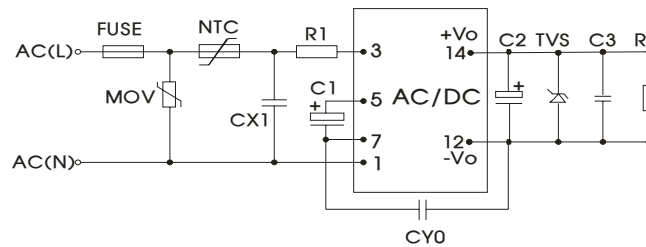
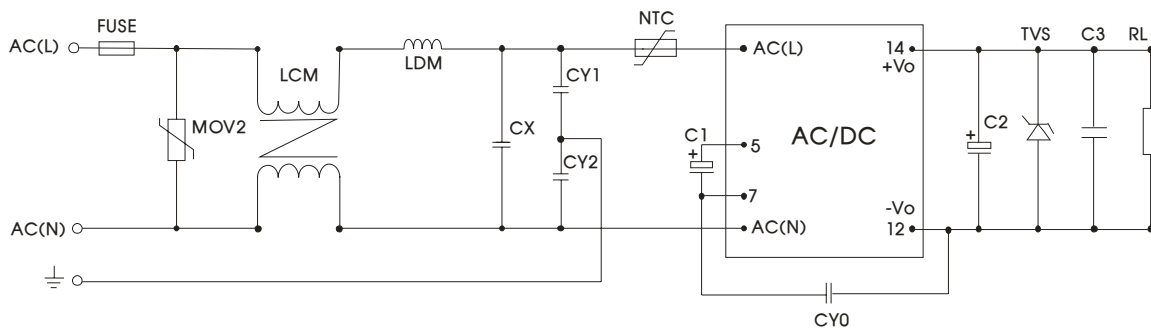

Fig. 1: Typical application circuit
Fig 2: EMC application circuit with higher requirements
CISPR22/EN55022, CLASS B (See Fig. 2 for recommended circuit)
Radiated Emission	CISPR22/EN55022, CLASS B (See Fig. 1 or Fig. 2 for recommended circuit)
- 2.It is necessary to add circuit to the output,such as the typical application of Figure 1.